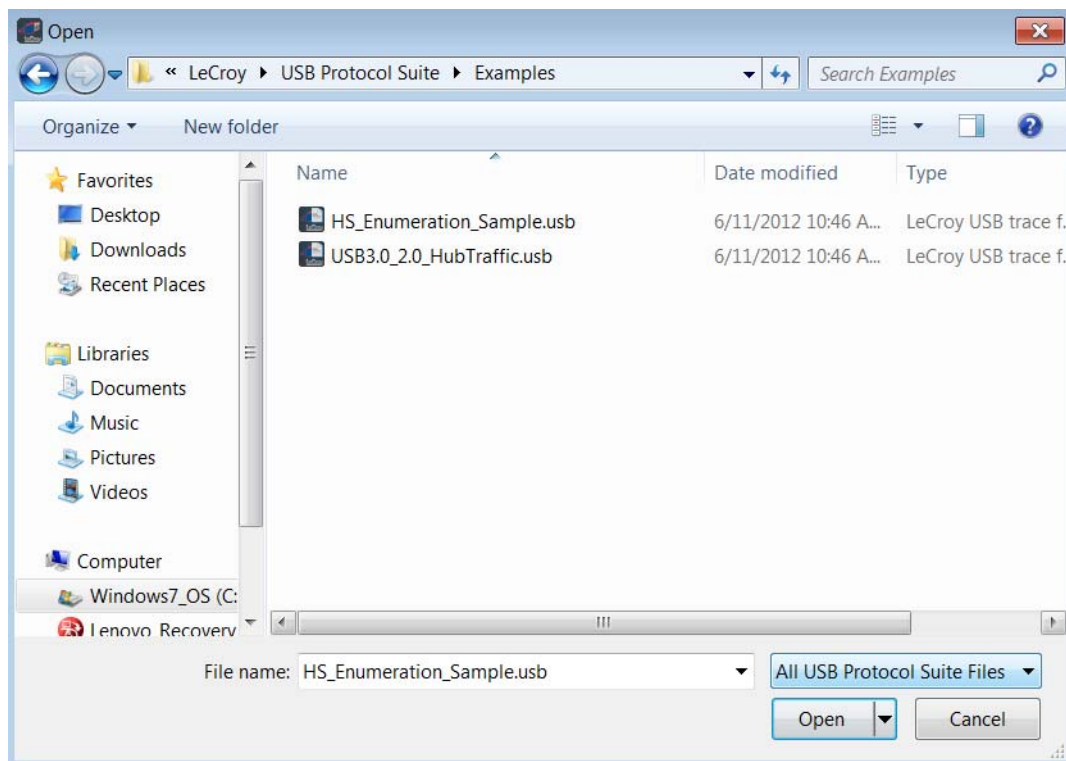

Figure 11.12: Open Dialog
1. Select **File > Open ...** from the menu to display the Open dialog (see Figure 11.12 on page 325):